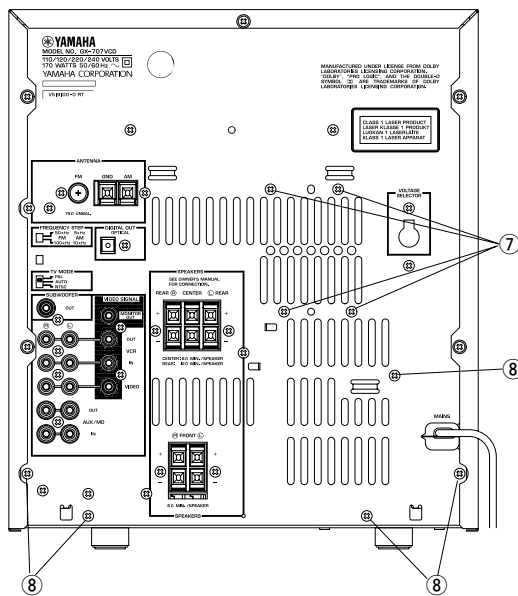

Fig. 6
**6. Operation Check of Main P.C.B. (1)**
- d. Remove 4 screws (7) and then remove the Fan in Fig. 6.
- e. Remove 5 screws (8) in Fig. 6.